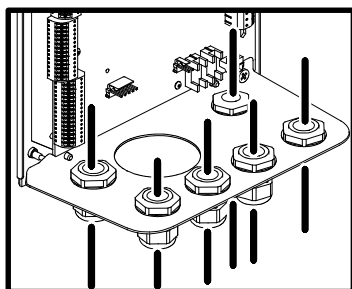

Figure 3-6 Routing the cables
2. Route all the cables through the conduits located on the base panel of the pattern controller, see Figure 3-6.